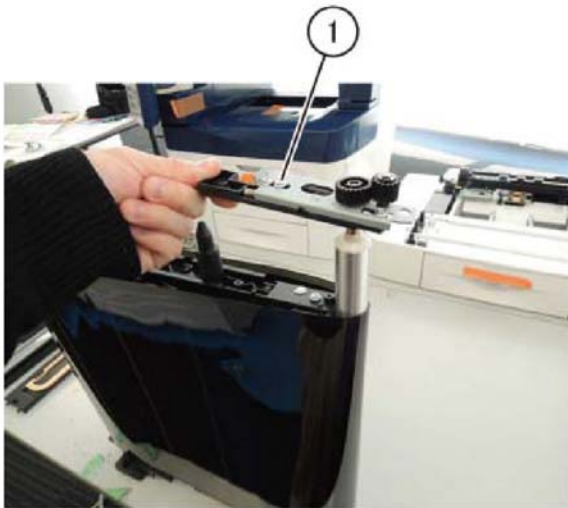

Figure 10 Rear holder and tension roll removal
13. Remove the rear holder and the tension roll, Figure 10.